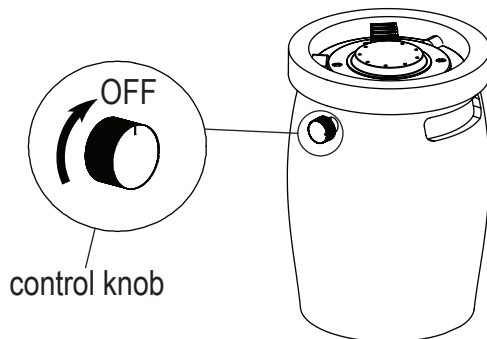

Figure 1
2. Check that the control knob is turned to the "OFF" position before starting any assembly (See Figure 1).